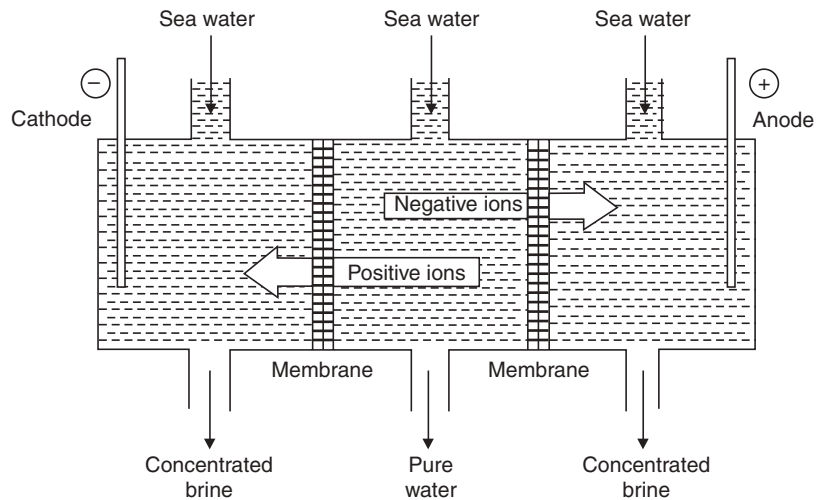

Fig. 17.6 Line diagram of electro dialysis.
- (a) *Electrodialysis*. This method involves the removal of ions from the brine solution by applying direct current and employing pair of plastic membranes through which ions can pass. From Fig. 17.6 we can find that when direct current is passed through saline water, the  $\text{Na}^+$  ions move towards the cathode while  $\text{Cl}^-$  ions move towards the anode through the membrane and collect in the two side compartments while the central compartment contains pure desalinated water.